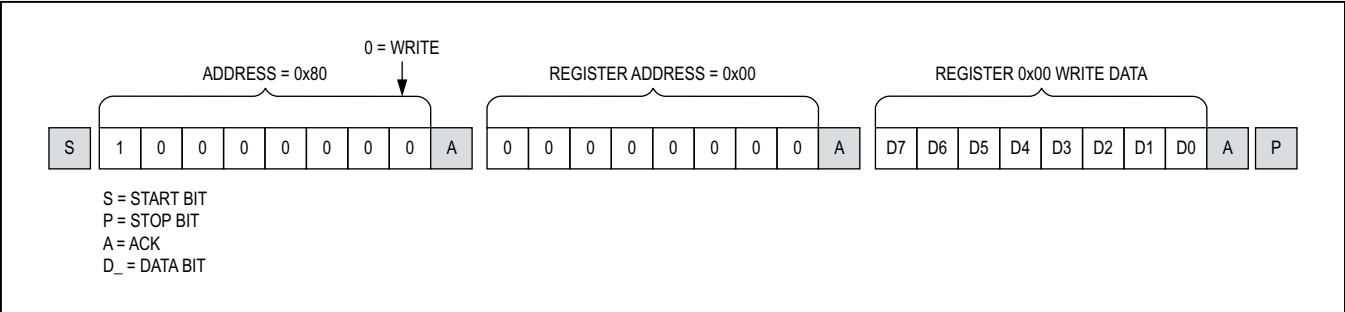

Figure 33. Format for I2C Write
Writes to the serializers comprise the transmission of the slave address with the R/W bit set to zero, followed by at least one byte of information. The first byte of information is the register address or command byte. The register address determines which register of the device is to be written by the next byte, if received. If a STOP (P) condition is detected after the register address is received, the device takes no further action beyond storing the register address (Figure 33). Any bytes received after the register address are data bytes. The first data byte goes into the register selected by the register address, and subsequent data bytes go into subsequent registers (Figure 34). If multiple data bytes are transmitted before a STOP condition, these bytes are stored in subsequent registers because the register addresses autoincrements.